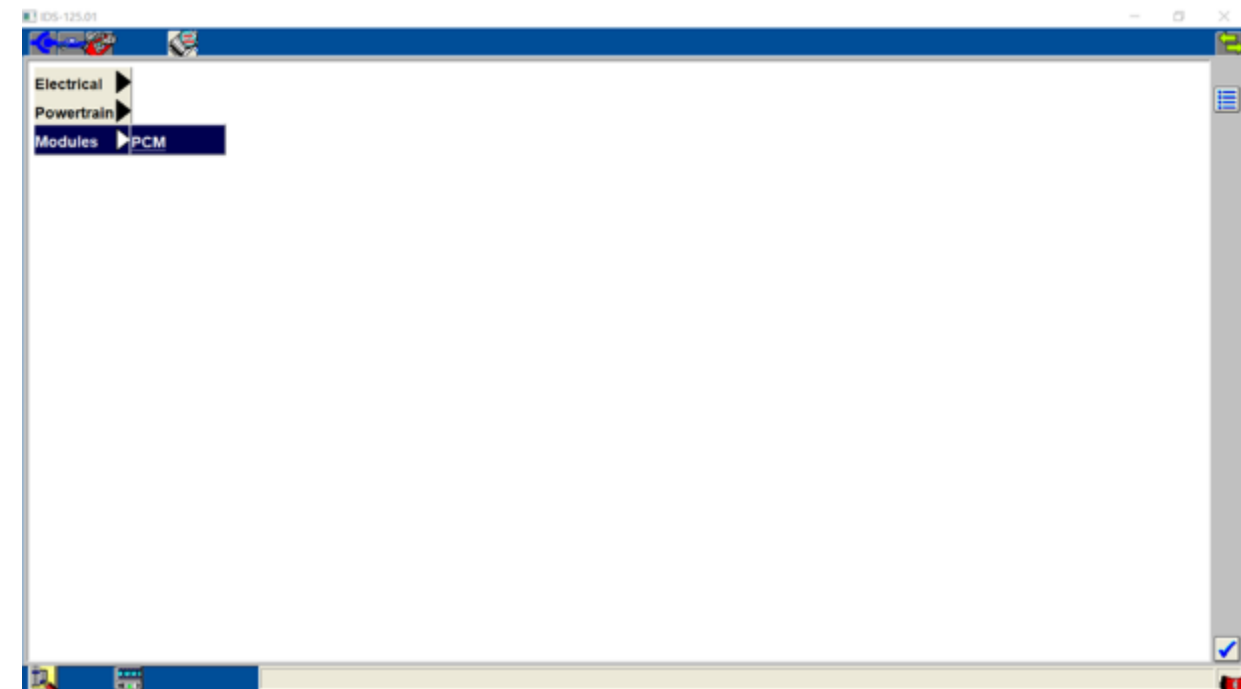

Fig 4
Step 3: Select “Modules” and then “PCM” (Figure 4)